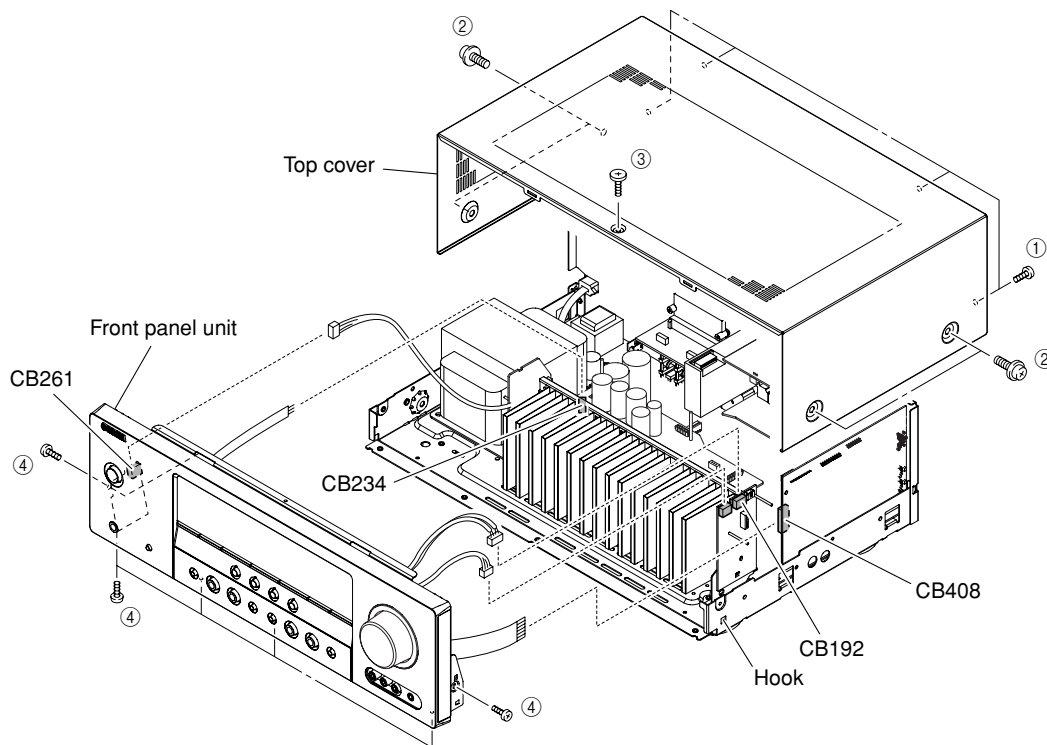

Fig. 1
- a. Remove 4 screws (①), 4 screws (②) and 1 screw (③). (Fig. 1)
- b. Slide the top cover rearward to remove it. (Fig. 1)
- a. Remove 6 screws (④). (Fig. 1)
- b. Remove CB192, CB234, CB261 and CB408. (Fig. 1)
- c. Release hook and then remove the front panel unit. (Fig. 1)